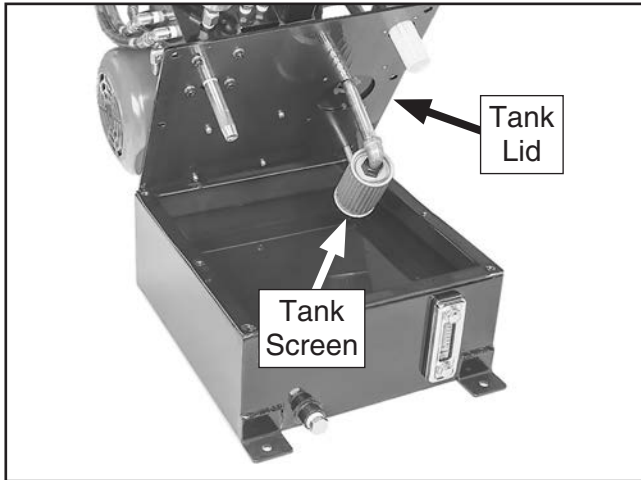

Figure 88. Example of hydraulic fluid tank lid removed.
7. Open tank by removing (6) hex bolts and flat washers that secure lid (see **Figure 88**).
8. Clean tank and tank screen (see **Figure 88**) with mineral spirits. Wipe out as much residual fluid and contaminants from tank as possible. Allow tank and tank screen to air dry.